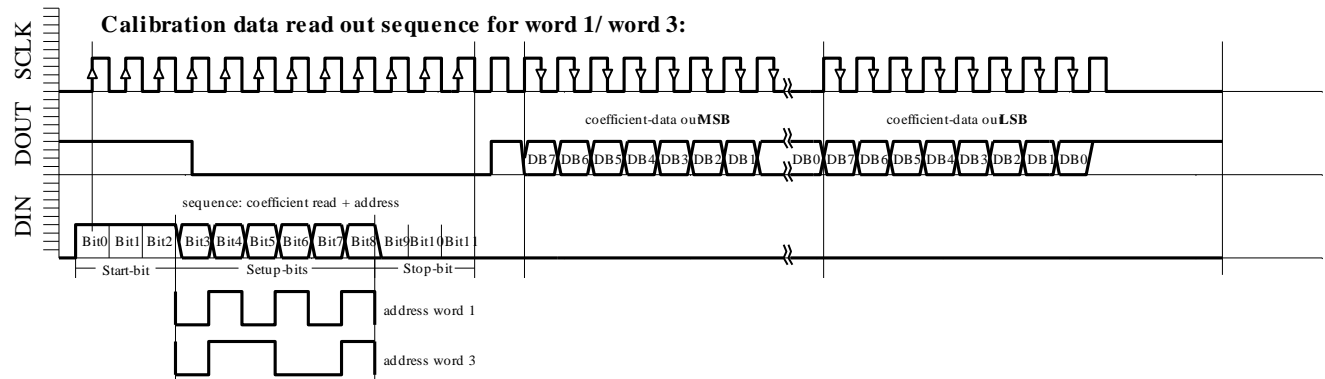

Fig. 6c: Word1, Word3 READING sequence
- Calibration data read-out sequence for word 1 and word 3 (Figure 6c)